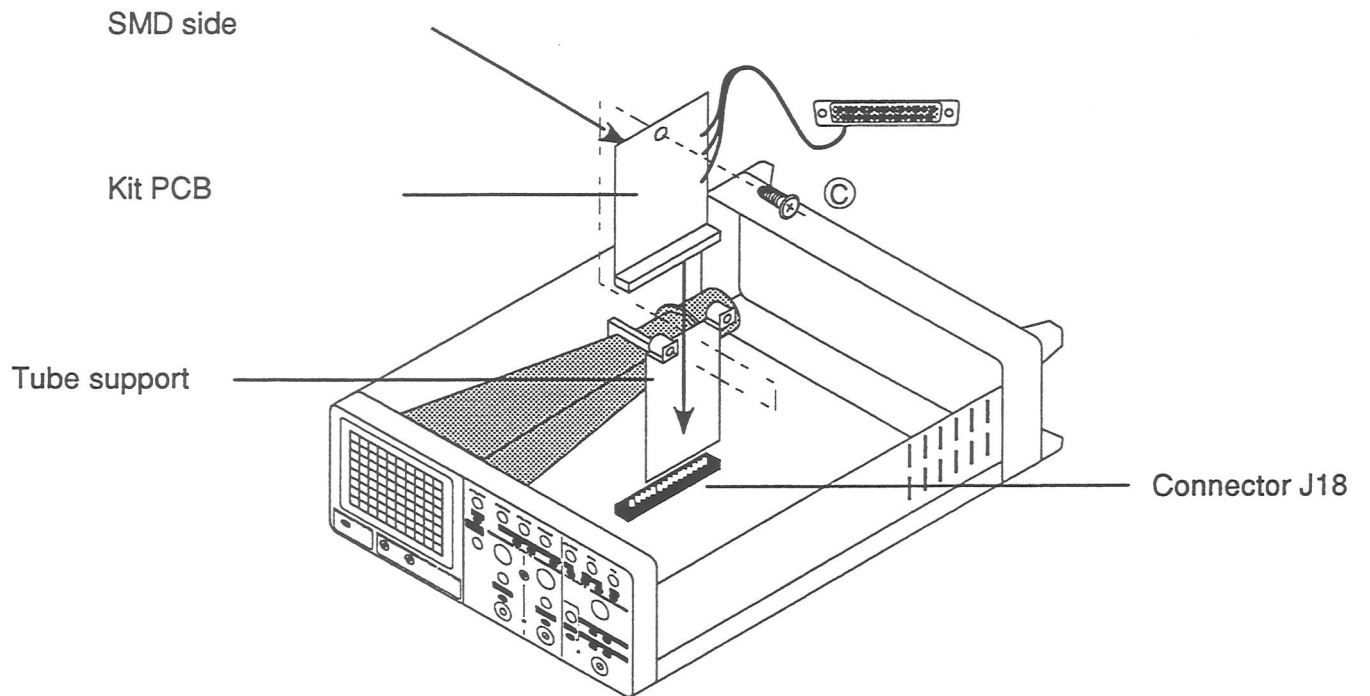

figure 18
- Fit the printed circuit supplied with the kit to connector J18 on the oscilloscope backplane (figure 18).
- Secure the printed circuit against the support using cross-head screw (C) (figure 18).